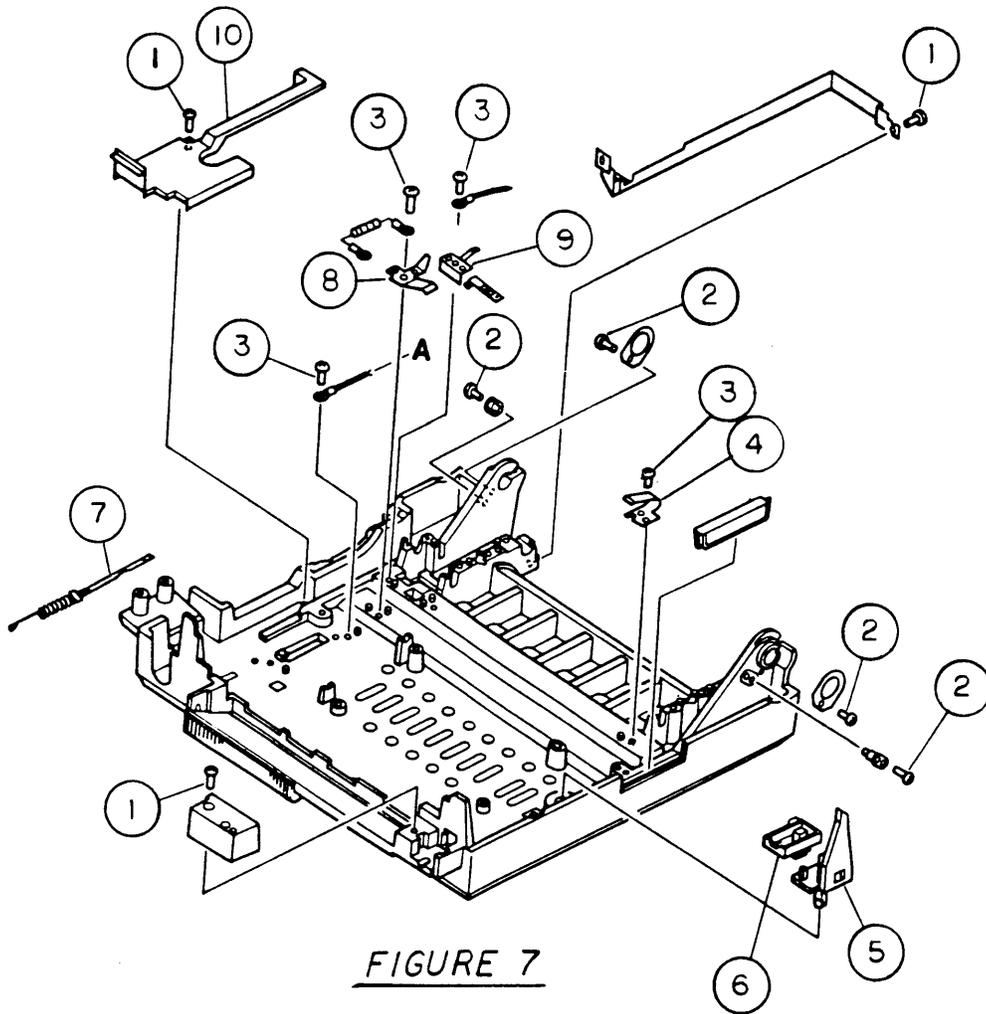

FIGURE 7
□ **LASERWRITER – LOWER MAIN BODY (Figure 7)**